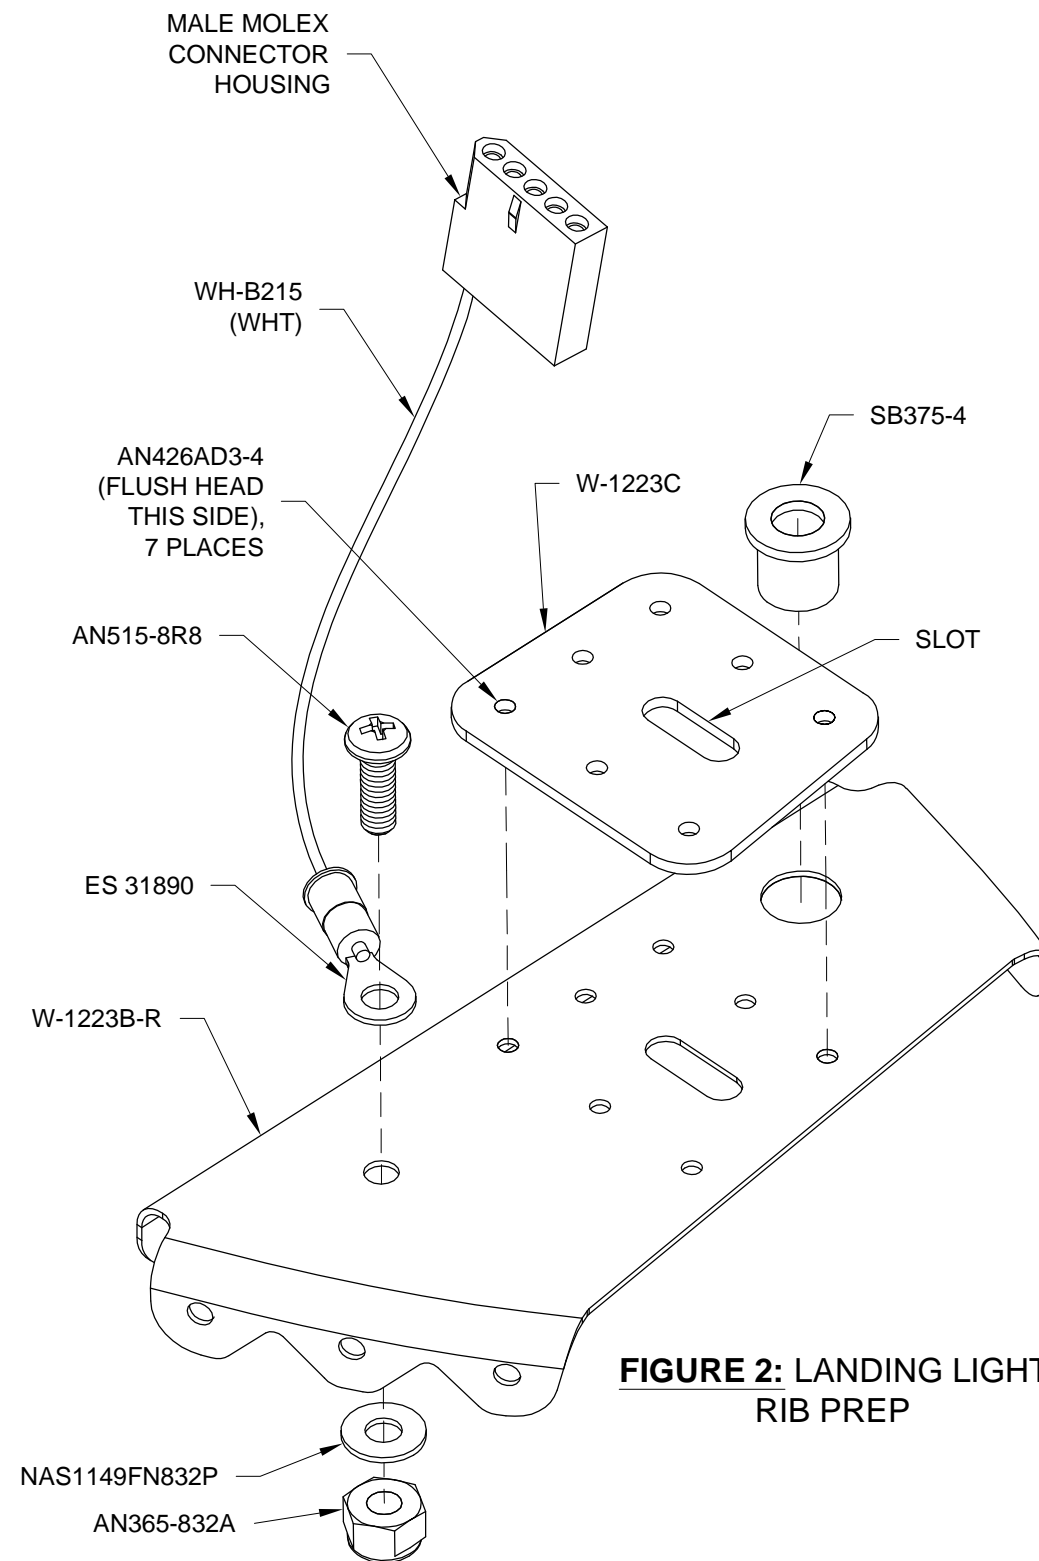

FIGURE 2: LANDING LIGHT RIB PREP
Crimp a ring terminal to the other end of the landing light ground wire. See Figure 2.
Step 9: Attach the WH-B215 (WHT) Landing Light Ground Wire to the W-1223B-L Landing Light Rib using the hardware called out in Figure 2.